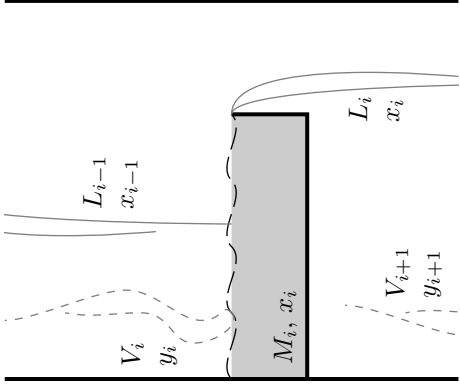

Figure 2.13a
2.13 The distillation plate, see Figure 2.13a, has the following variables: